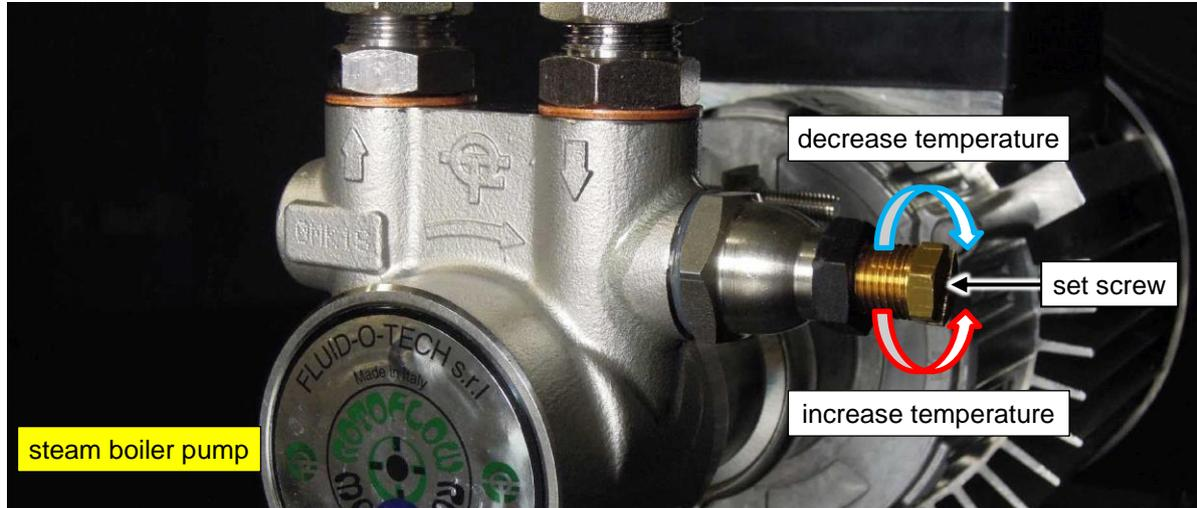

Figure 12. Adjust hot water temperature by changing the pump pressure of the steam boiler pump.
5. See Figure 12. If the temperature is too low: decrease pump pressure of the steam/hot water boiler pump (turn set screw counter-clockwise).